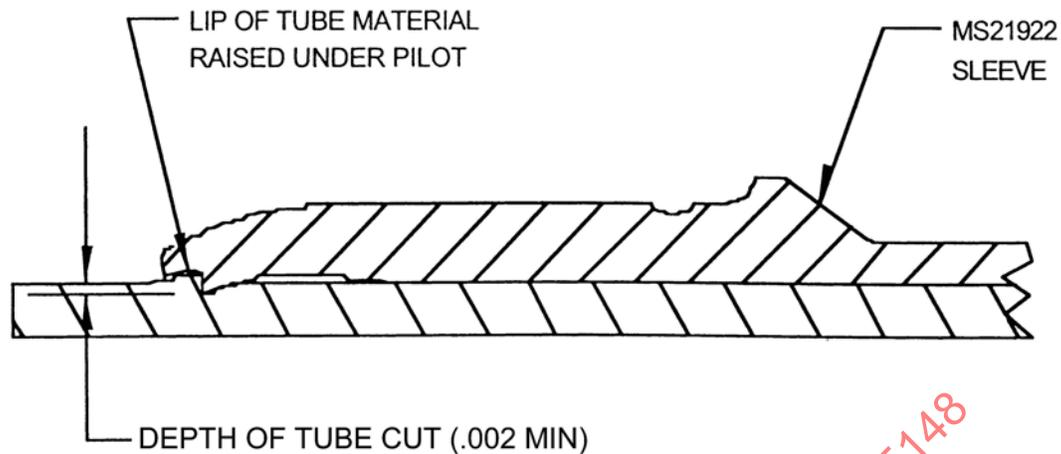

FIGURE 2 - Typical Tube Cut Produced by Bite Type Sleeve
- 3.1.5.2 The preset instructions described above are intended to result in a depth of cut on the tube of .002 in minimum (see Figure 2). This is not to be construed as an inspection requirement.